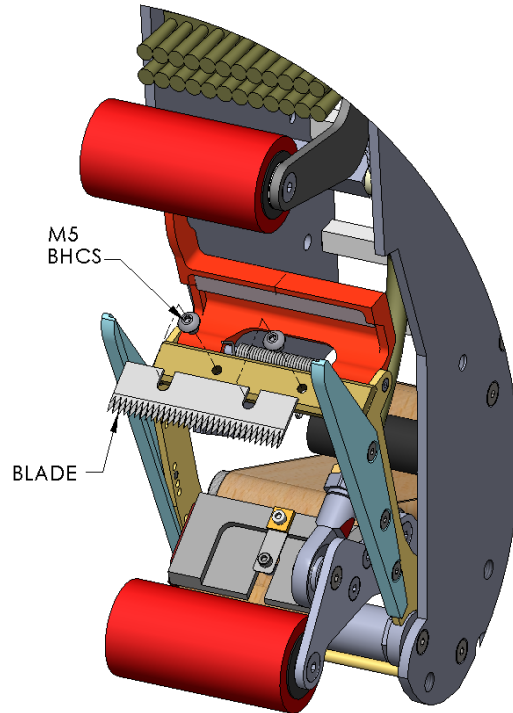

Figure 10-12
3. Re-install the cutter blade as shown in **Figure 10-12**